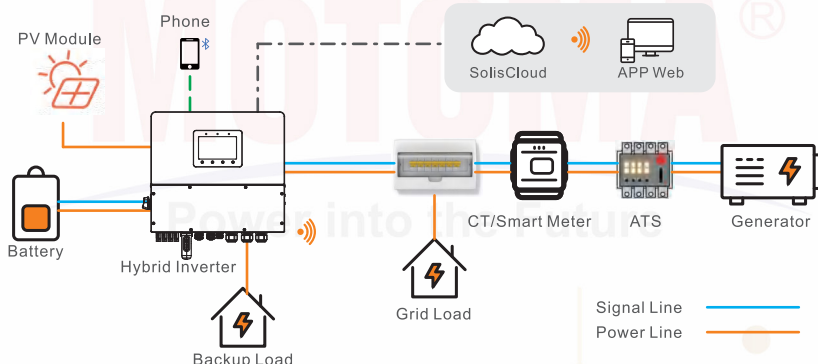

Figure 3.4 Typical off-grid scenario diagram (Generator on ATS)
- If the generator is connected through an ATS on the grid side(Figure 3.4), then CT or smart meter is required.